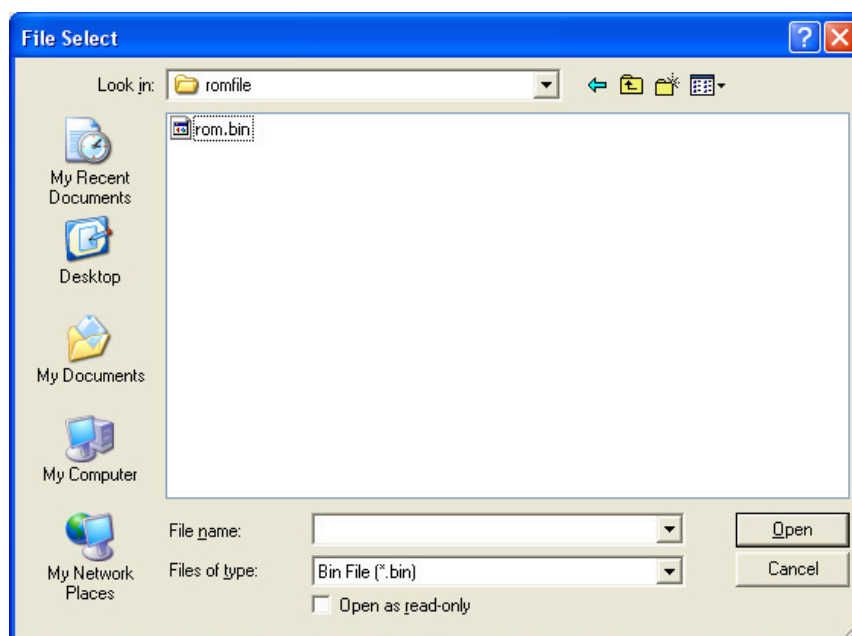

Figure 12. Open dialog box for uploading
- ④ When the window as shown in Figure 12 is displayed, select file to upload and click "Open" button.